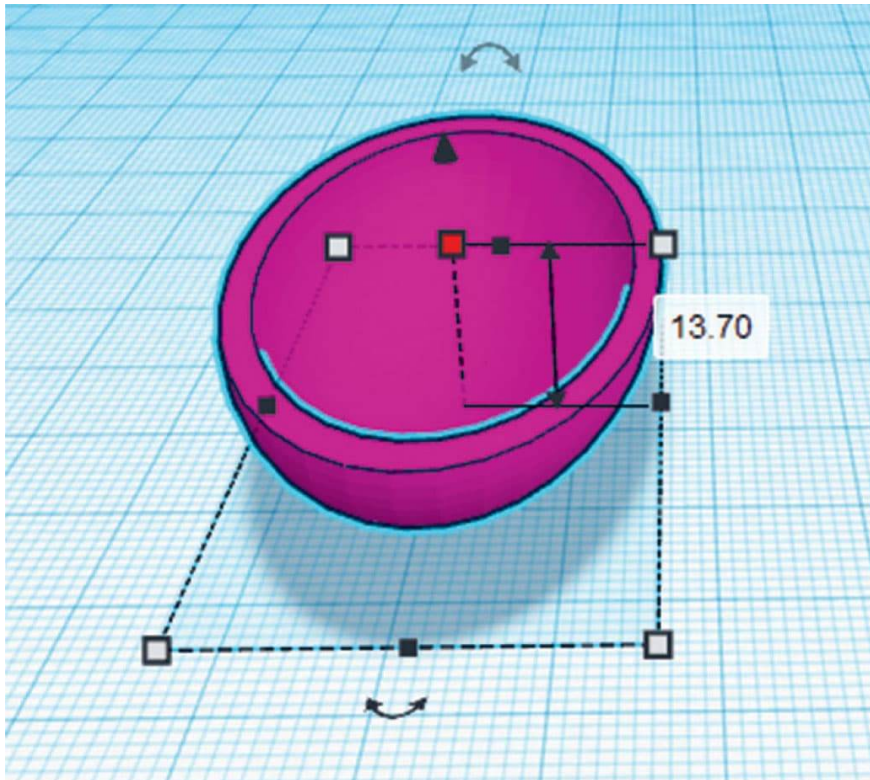

FIG. 3: Group the half-spheres and resize.
3. Group the two half-spheres and resize. The length should be about 55 mm, width 30 mm, and height about 13 mm as shown in fig. 3.